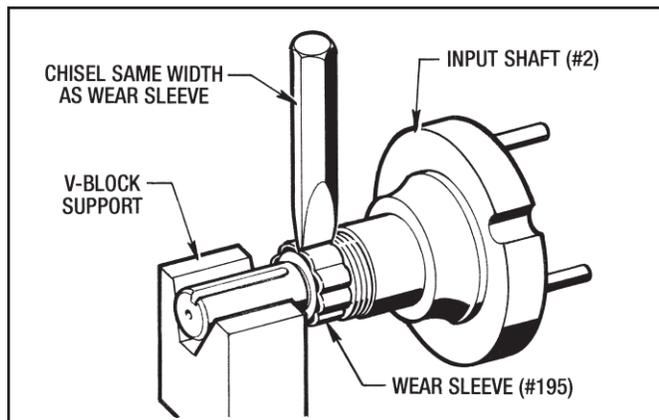

Figure 7.2 - Removing Wear Sleeve (#195)
7. To remove the Wear Sleeve (#195) make about 5 or 6 notches in it with a chisel the same width as the Wear Sleeve as shown in Figure 7.2. The Wear Sleeve (#195) can be removed by hand after this is done.